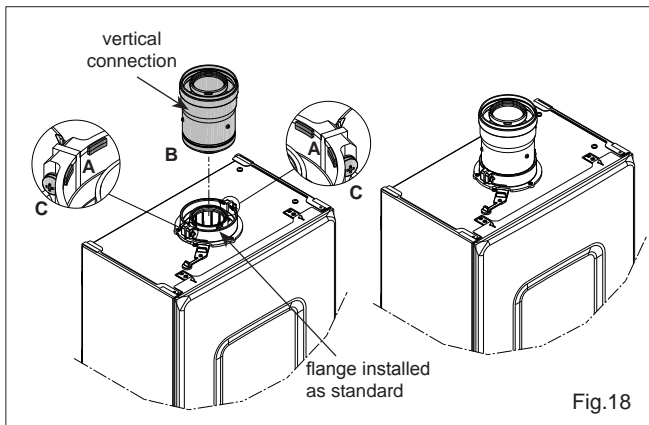

Fig.18
NOTE: The appliance incorporates a 'click-fit' flue connection (see fig. 18). Ensure that both screws 'C' (fig. 11) on the 'click-fit' have been slackened off. Ensure that the connector is correctly aligned with the 'click-fit' and insert it into the 'click-fit' until it clicks into position (this is when the tabs at points 'A' are located in the groove of the vertical flue connector - see fig. 18). Both screws (C) should now be tightened.